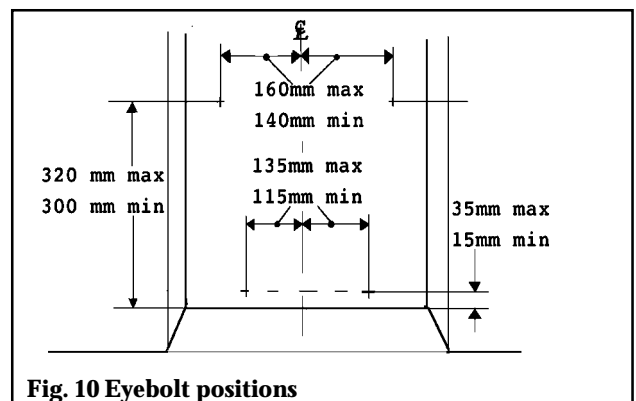

Fig. 10 Eyebolt positions
7.2.1 Drill four holes in the rear wall of the fireplace for the eyebolt plugs. The holes should be drilled within the range of positions shown in figure 10 using a no.12 masonry drill. The holes should be equidistant each side of the centre line of the fireplace to ensure that the appliance finishes centrally in the opening when tension is applied to the cables.